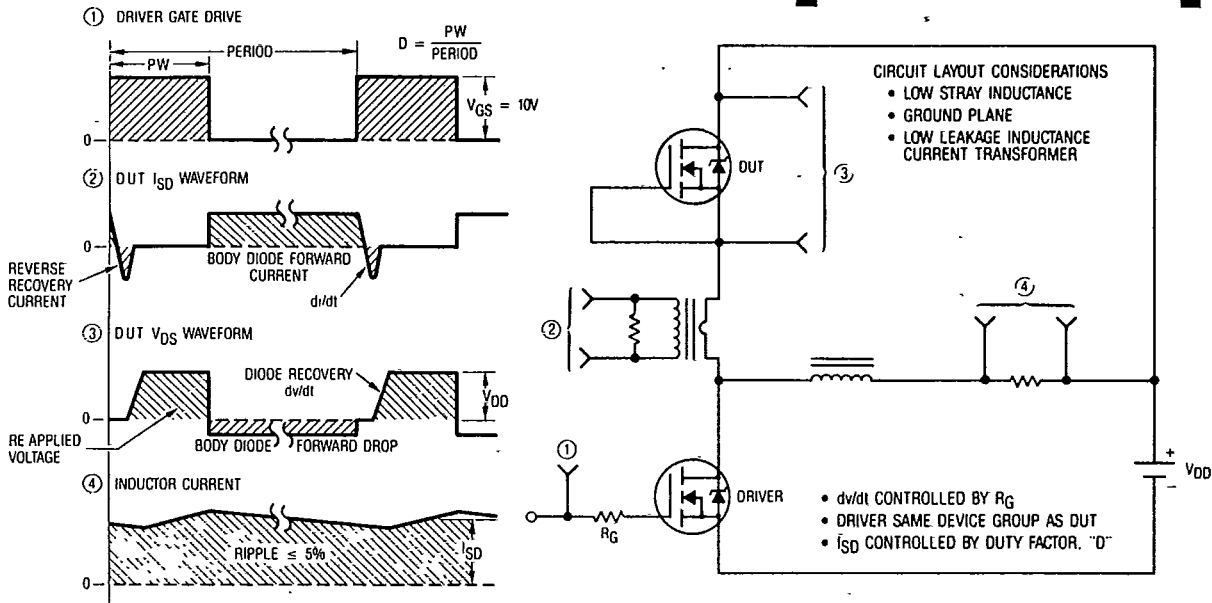

Fig. 17 — Peak Diode Recovery dv/dt Test Circuit
| dv/dt Peak Diode recovery dv/dt ^⑤ | 5.5 (See Fig. 17) | V/ns |